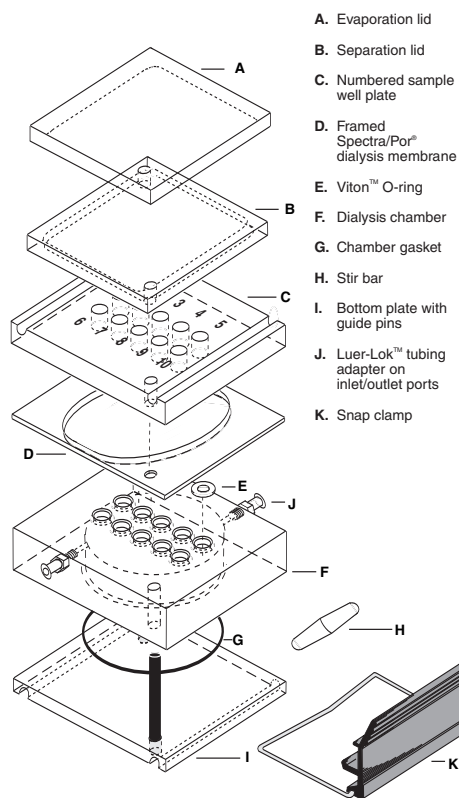

Figure 2 - Spectra/Por® MicroDialyzer components
3. Remove the sample well plate (item B in Figure 2). The O-rings should remain on top of the dialysis chamber. If necessary, reposition any O-rings which may have been disturbed so that they are centered on top of the well openings in the dialysis chamber.